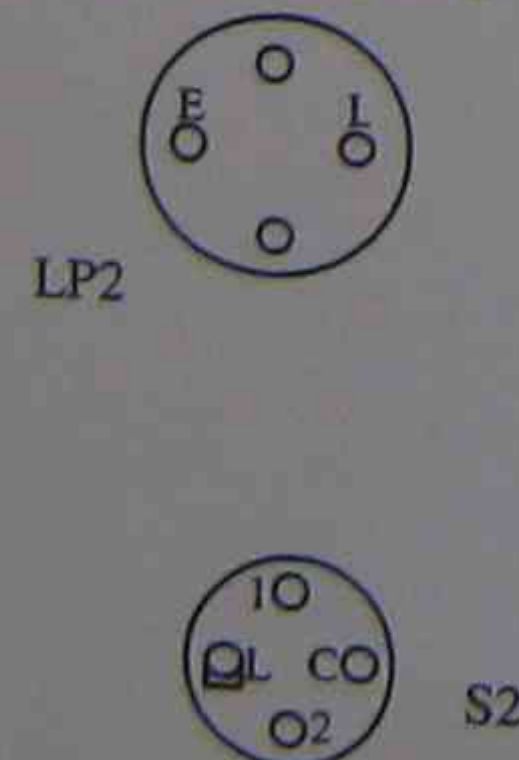

Figure 15 Wiring diagram for lighting point 2 and switch 2
4. Complete the wiring diagram of Figure 15 by drawing the connections required at lighting point 2 and switch 2. Also show the incoming and outgoing conductors.